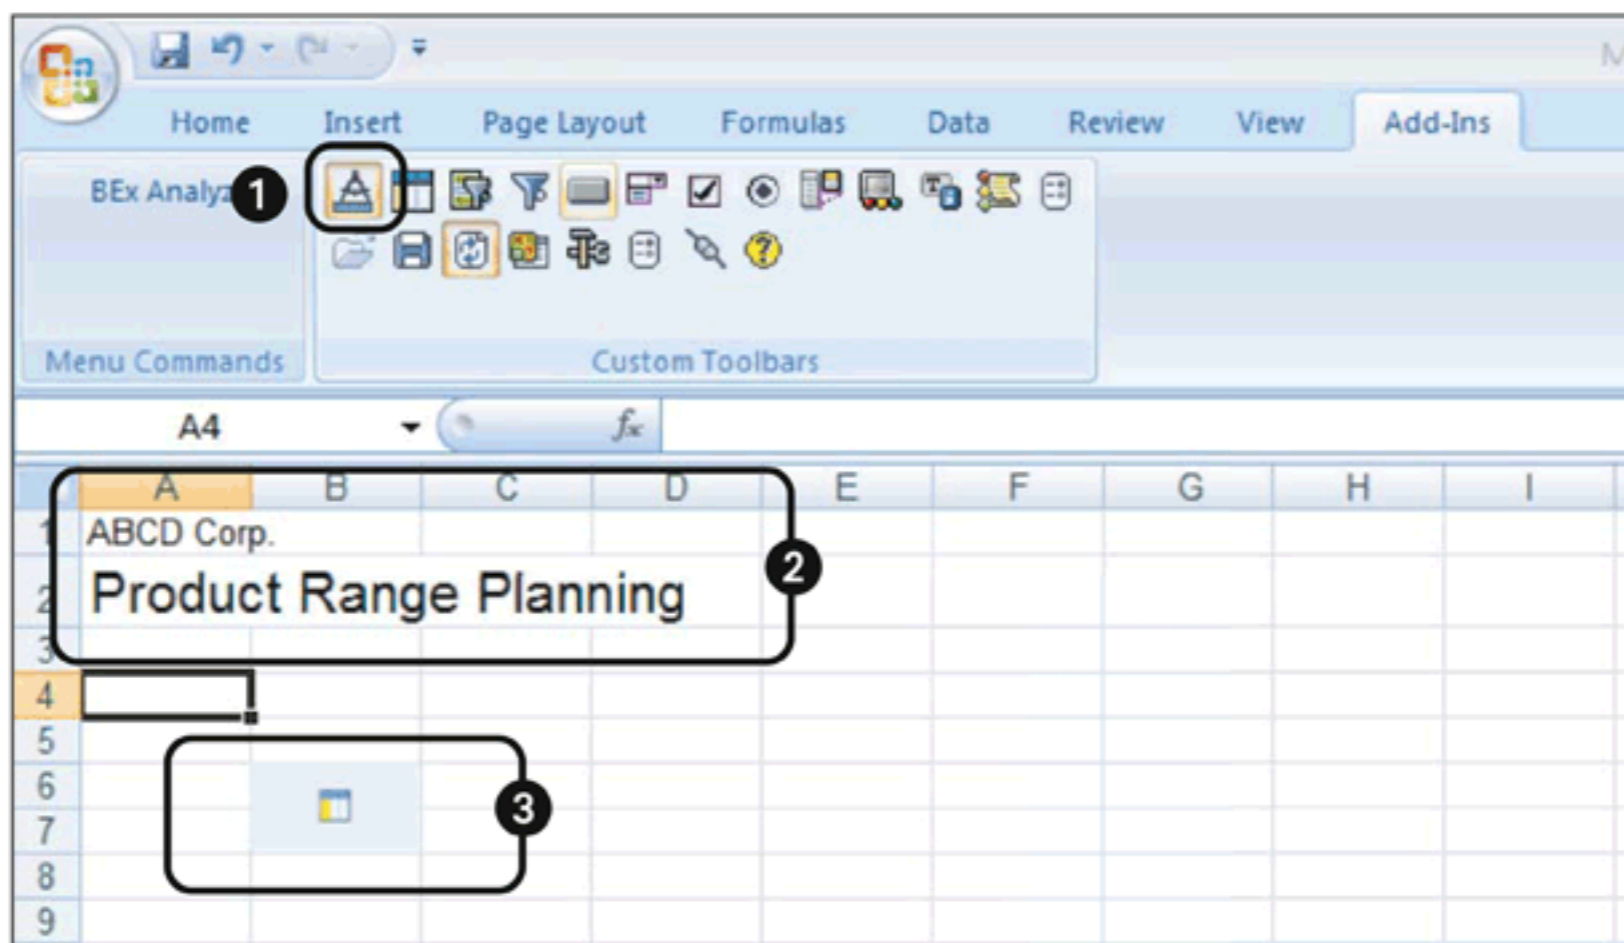

Figure 12.63 Create New Planning Application in BEx Analyzer
To start, open BEx Analyzer: START MENU • PROGRAMS • BUSINESS EXPLORER • ANALYZER. Open a new Excel workbook, and switch to design mode by clicking on the button shown in ❶ of Figure 12.63.